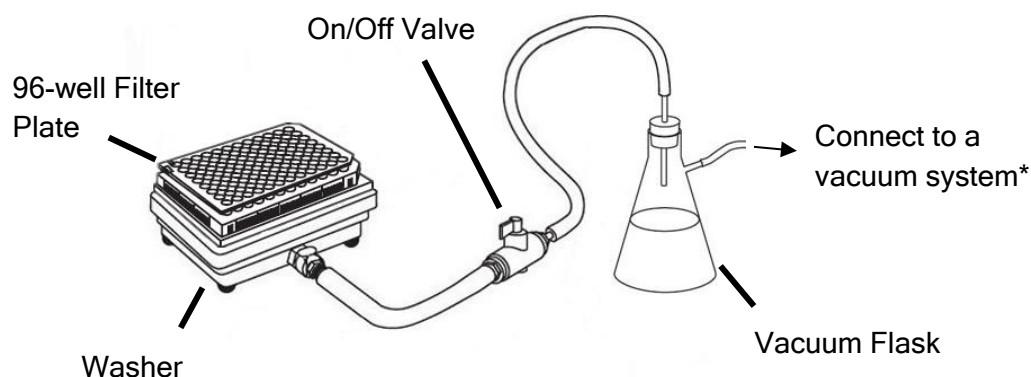

Figure 1: Assay Genie GeniePlex Filter Plate Washer Setup
1. Unpack the components and connect the supplied tubing to a 1- or 2-liter vacuum flask (not supplied) with the ON/OFF valve in between the Washer and vacuum flask as indicated in **Figure 1**.